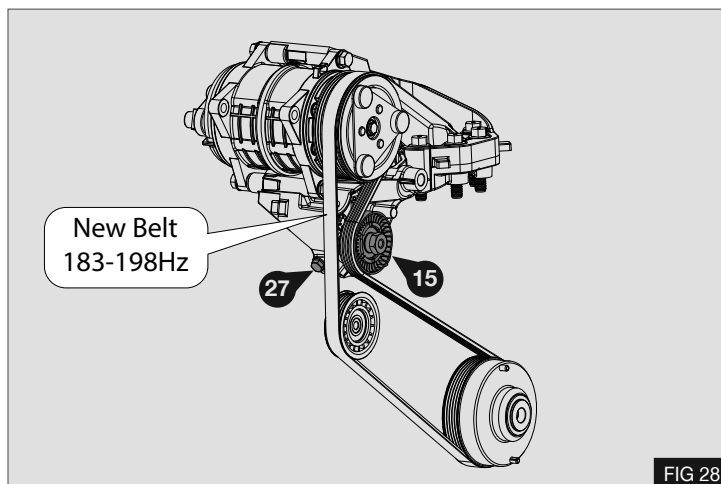

FIG 28
Tension the drive belt (34) using draw bolt (27). Once the correct tension is achieved (see table) tighten the pulley nut (15) - Fig 28